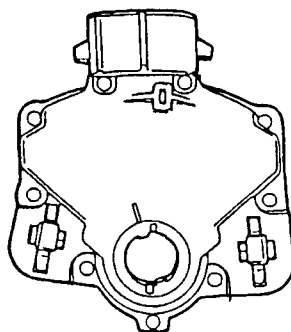

Figure 35
**Description:** The Manual Lever Position Sensor sends a signal to the processor assembly. This indicates the position of the shift lever. The MLPS is located on the outside of the transmission at the manual lever (Figure 35).